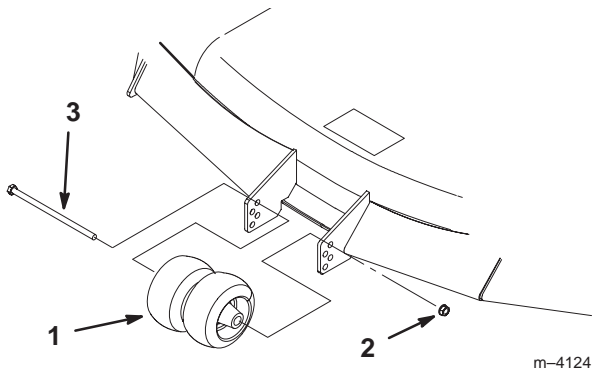

Figure 20
3. After adjusting the height-of-cut, remove the bolt and nut (Fig. 20).
4. Select a hole so that the gage wheel is positioned to the nearest corresponding height-of-cut desired (Fig. 20).
5. Reinstall the bolt, center rollers, and nut (Fig. 20).